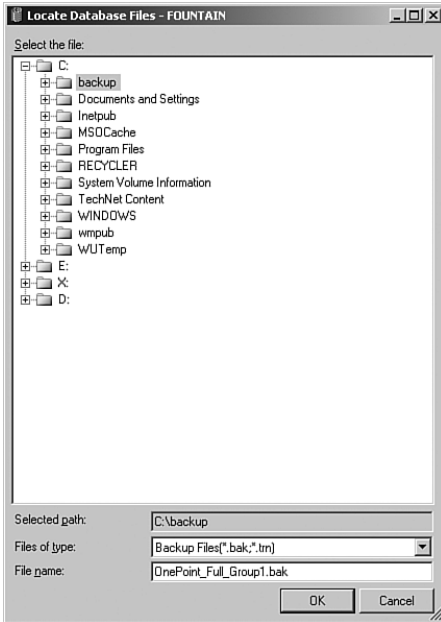

FIGURE 12.11 The backup device location screen.
3. Select Add under Destination. The wizard provides a default location of `%ProgramFiles%\Microsoft SQL Server\MSSQL\Backup`. To enter the location and filename where the backup will be stored, click on the button with the ellipses (...) and name the file `OnePoint_Full_Group1.bak`. Figure 12.11 shows the location specified for the backup file.